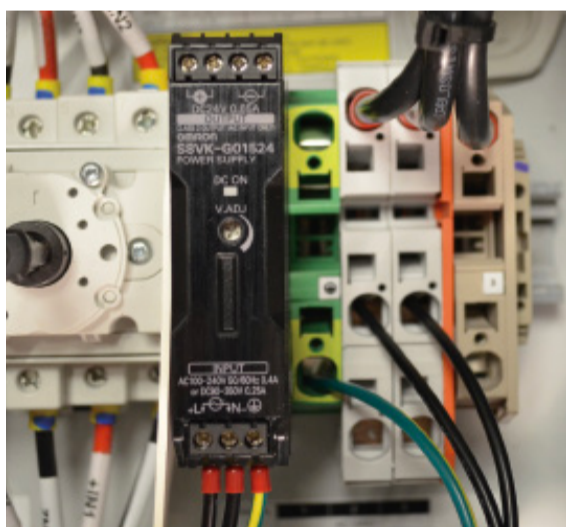

Figure 14
Step 5: Connect the ground (green) wire from the kit to the ground terminal of the power supply and to the green terminal block. Connect one black wire between the center position of the first terminal block and terminal "L" on the power supply. Connect the 2nd black wire between the center position of the 2nd DIN rail terminal block and terminal "N" on the power supply. Confirm all wires are completely seated. Torque all power supply screws to 4.43 in-lb (0.5 N·m) - 5.31 in-lb (0.6 N·m). Figures 14 and 15 show the two terminal blocks in place and correctly wired. Give all wires a pull test to confirm the connections are solid.